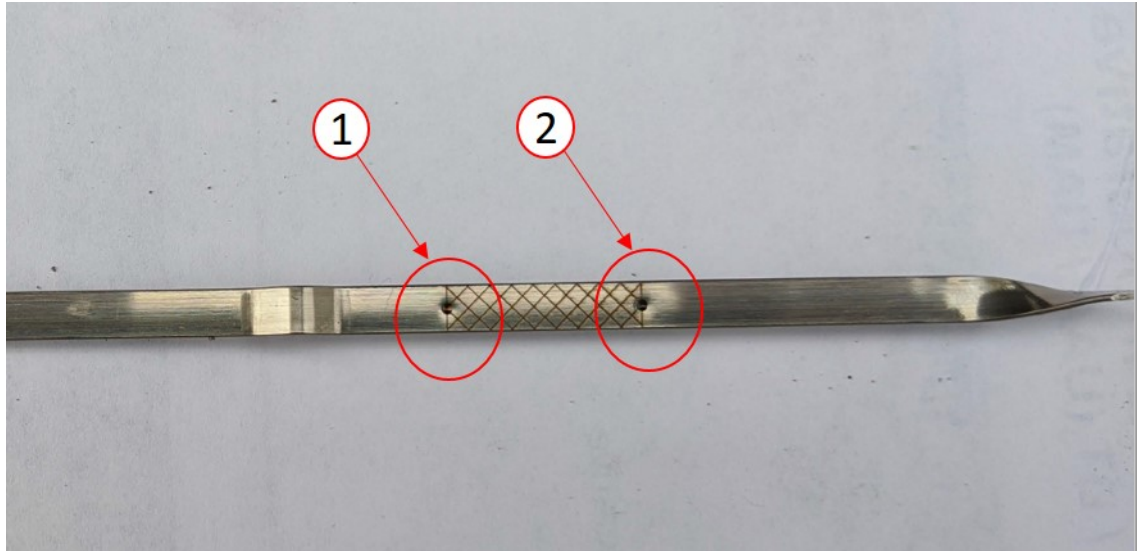

Fig. 1
5. Ensure the oil level is at the "FULL" mark, if necessary top off the oil to the "FULL" mark on the dipstick (Fig. 1) .
7. Record the vehicle mileage. Note the oil level is at the 'full' mark (Fig. 1) five minutes after hot shutdown and date.
12. Check the oil level at least five minutes after a hot shutdown on a level surface. If the oil level is at or above the "ADD" mark, the engine is in an acceptable condition and no further service action required (Fig. 1) .
13. ****If the oil level is below the "ADD" mark (Fig. 1) , please submit a digital imaging request to Powertrain Service Center with a copy of the repair order, maintenance records, oil consumption documentation, serial number and Repair/Replace Worksheet for authorization for a long block replacement approval.****